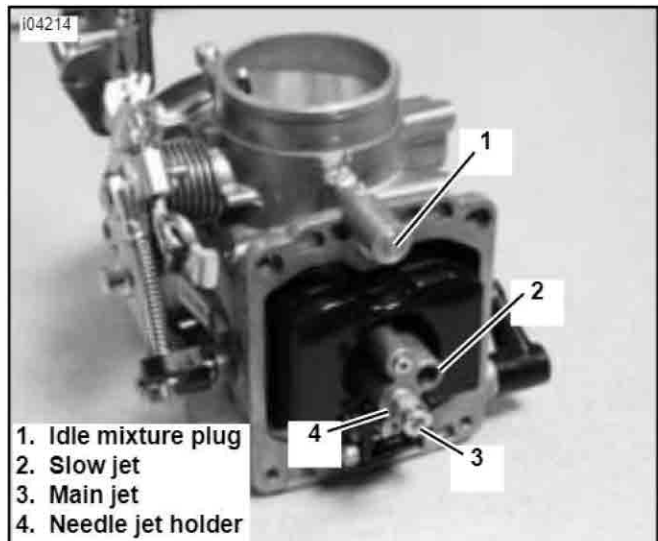

Figure 5. Jet Location
3. See Figure 5. Using a narrow blade screwdriver, remove the slow jet and replace it with the jet from the kit.